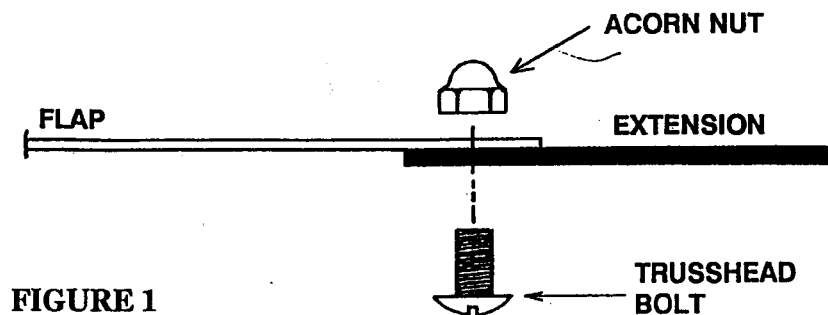

FIGURE 1
STEP 2: Using C-clamps or Vise Grips, clamp the flap extension to flap. Install trusshead bolts and acorn nuts. SEE FIGURE 1.